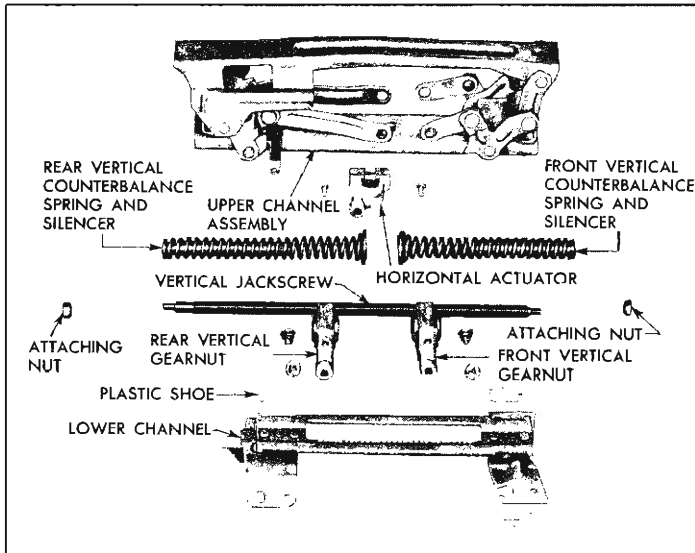

Fig. 46—Exploded View of Adjuster
9. Disengage rear end of jackscrew from support and remove jackscrew with gear nuts and spring from adjuster. Rear assist spring and silencer may now be removed from jackscrew (fig. 46).